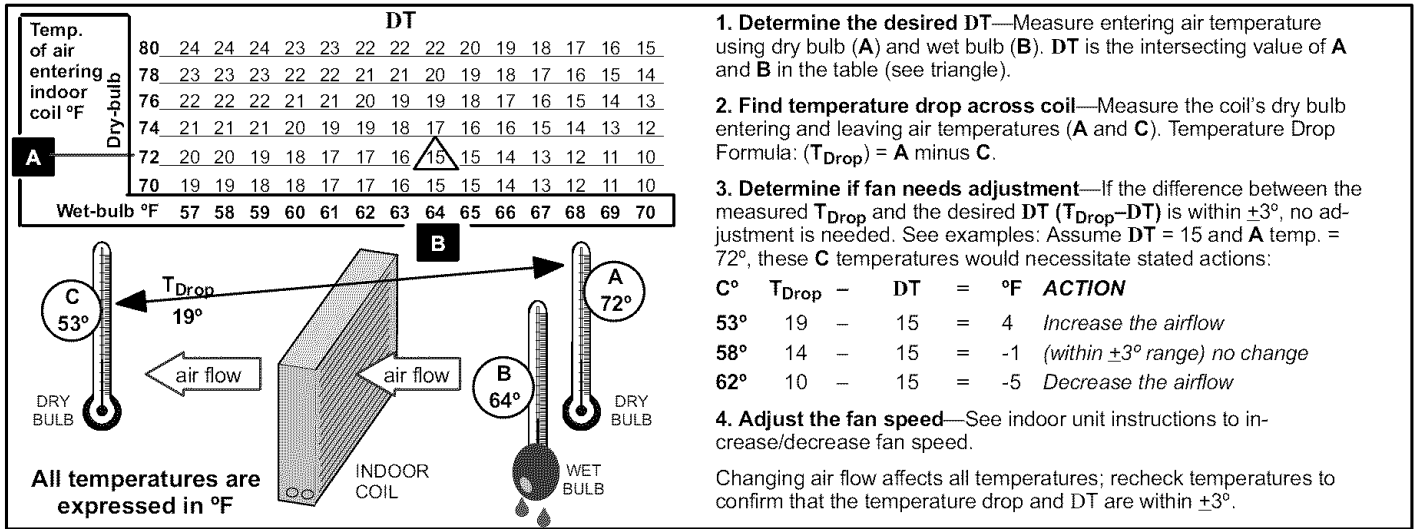

Figure 31. Checking Indoor Airflow over Evaporator Coil using Delta-T Chart
Check indoor coil airflow using the Delta-T (DT) process as illustration in figure 31.